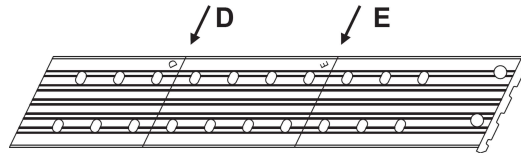

FIGURE 29 :ADJUSTABLE SHOE CUT LOCATION (CUT WHEN REQUIRED)
X. Reference the ceiling height you recorded in Section V and determine the location to cut the attic ladder side rails and adjustable shoes for your ceiling height. See **Table 4** and **Figure 28** and **Figure 29**.
Installer #1: Cut the ladder side rails and adjustable shoes at the appropriate location. See **Figure 28** and **Figure 29**. Be careful of sharp edges after making the cuts.